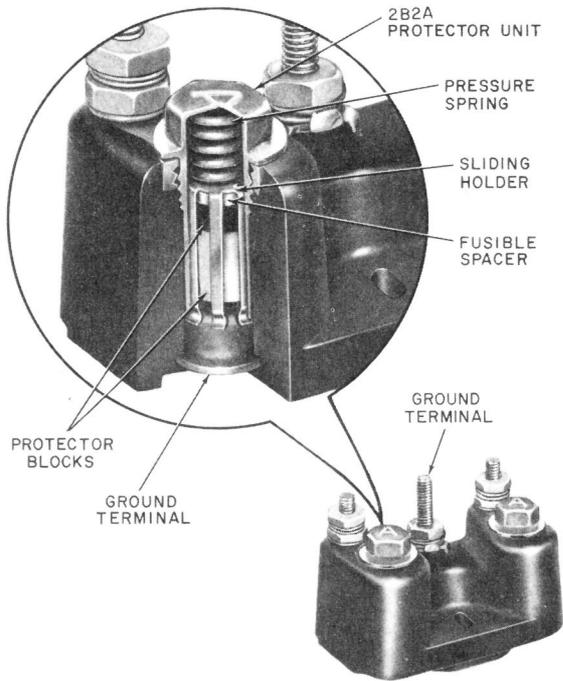

Fig. 2—123A1A Protector
3.03 The 123A1A protector (Fig. 2) provides protection for one pair of wires. It consists of a nonconductive base containing three binding posts and two 2B2A protector units.